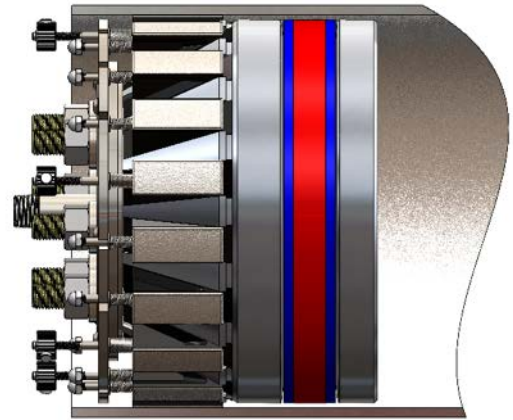

Figure 14: GripSafe ST ORB Auto-Locking all Wedge Grippers activated (Compressed)
- 9.5 Once the insertion depth requirement is met, tighten the **Compression Hex Nuts(19)** evenly so that the **Spring Plate Hub(18)** is touching the **Retainer Plate(16)**. At this point, all of the **Wedge Grippers(4)** are activated and are independently touching the pipe inner diameter, see Figure 14.